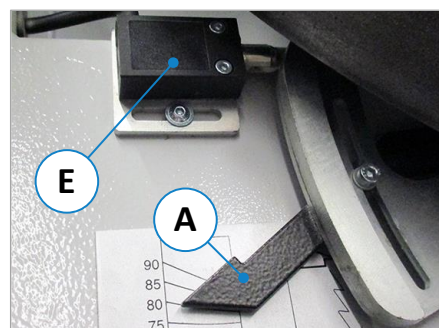

Figure 68: Limit switch for saw blade tension
Functionality: The limit switch (E) shown in ⇒ Figure 68 triggers the red control light as soon as the saw blade tension is insufficient or not present.